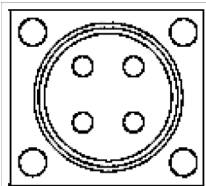

Figure 4: Power Cable Connector
- 8 Connect the power cable (see Figure 4).